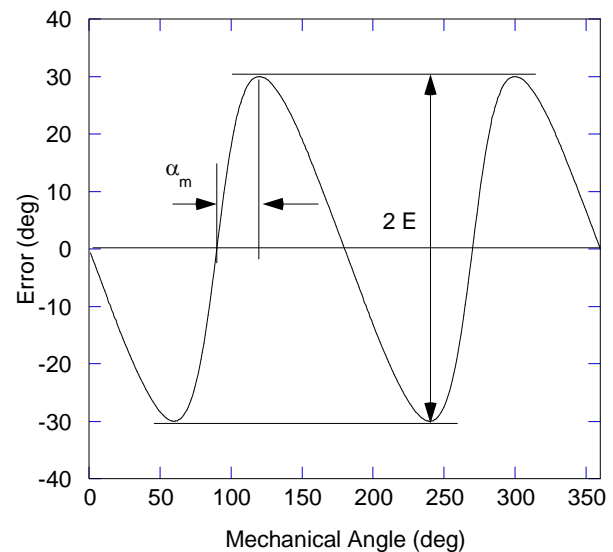

Figure 21: Error Curve in Side-Shaft Configuration with BCT = 0
The ratio k depends on the magnet geometry and the distance to the sensor. Having a k ratio other than 1 results in the sensor output response not being linear with respect to the mechanical angle. Note that the error curve has the shape of a double sinewave (see Figure 21). E is the amplitude of this error.
The k ratio can be deduced from the error curve obtained with the default BCT setting (BCT = 0). To do this, rotate the magnet over one revolution and record the device's output. Then plot the error curve (the output minus the real mechanical position vs. the real mechanical position) and extract two parameters: the maximum error (E) and the position of this maximum with respect to a zero crossing a_m (see Figure 21). k can be calculated with Equation (7):